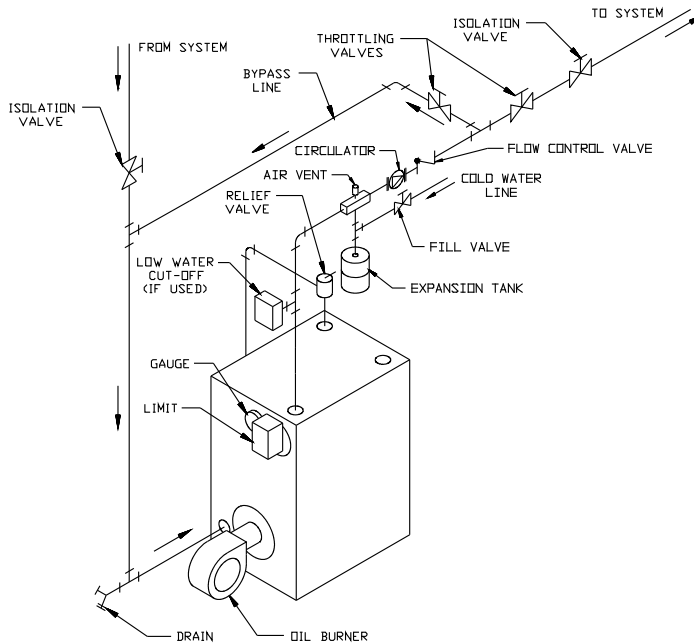

FIGURE 12: BOILER BYPASS PIPING
- 2) Large Water Volume Systems - The piping shown in Figure 12 will minimize the amount of time that the boiler operates with return temperatures below 120°F on these systems. A bypass is installed as shown to divert some supply water directly into the return water. The bypass pipe should be the same size as the supply. The two throttling valves shown are adjusted so that the return temperature rises above 120°F during the first few minutes of operation. A three-way valve can be substituted for the two throttling valves shown.